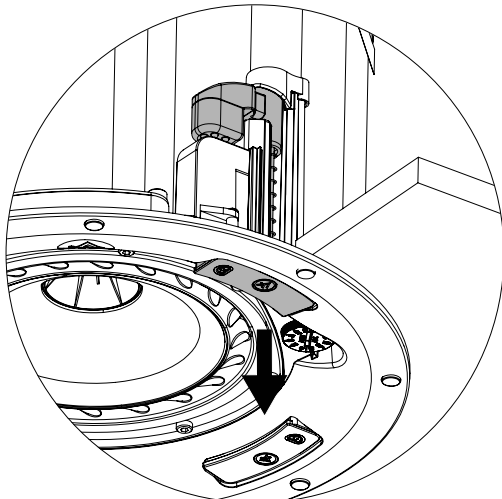

Figure 46
- Disengage first T-handle from default installed position (Figure 46).